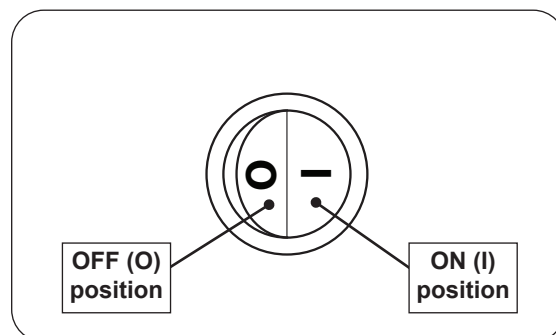

Fig. 36-1 Manual operation
3. Press the ON/OFF switch to the **ON (I)** position (see Fig. 36-1).